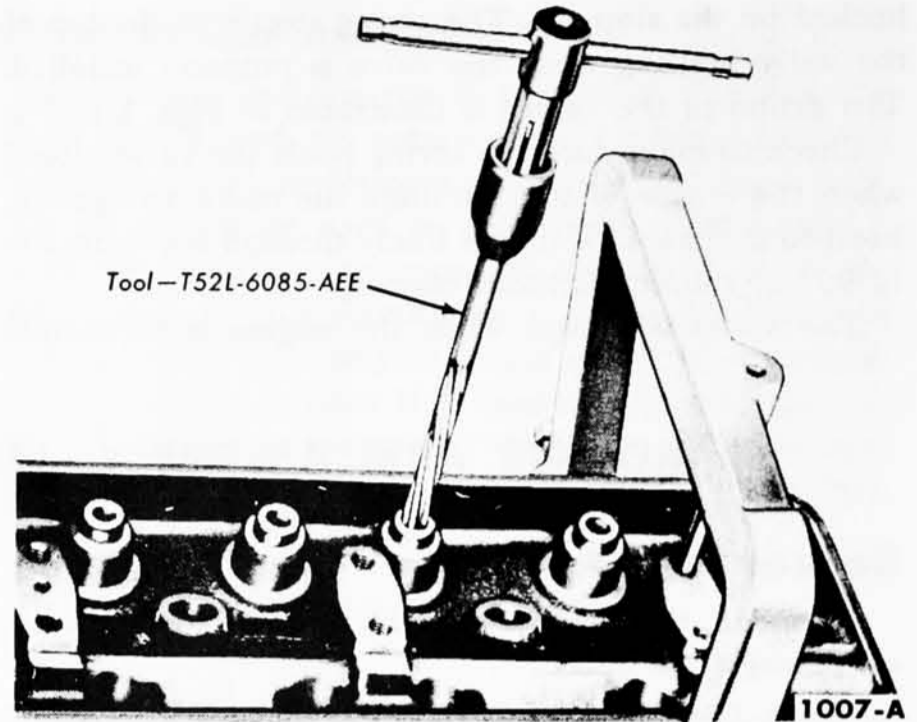

Fig. 7—Reaming Valve Guides
**REAMING VALVE GUIDES.** If it becomes necessary to ream a valve guide (Fig. 7) to install a valve with an oversize stem, a reaming kit is available which contains the following reamer and pilot combinations: a 0.003-inch O.S. reamer with a standard diameter pilot, a 0.015-inch O.S. reamer with a 0.003-inch O.S. pilot, and a 0.030-inch reamer with a 0.015-inch O.S. pilot